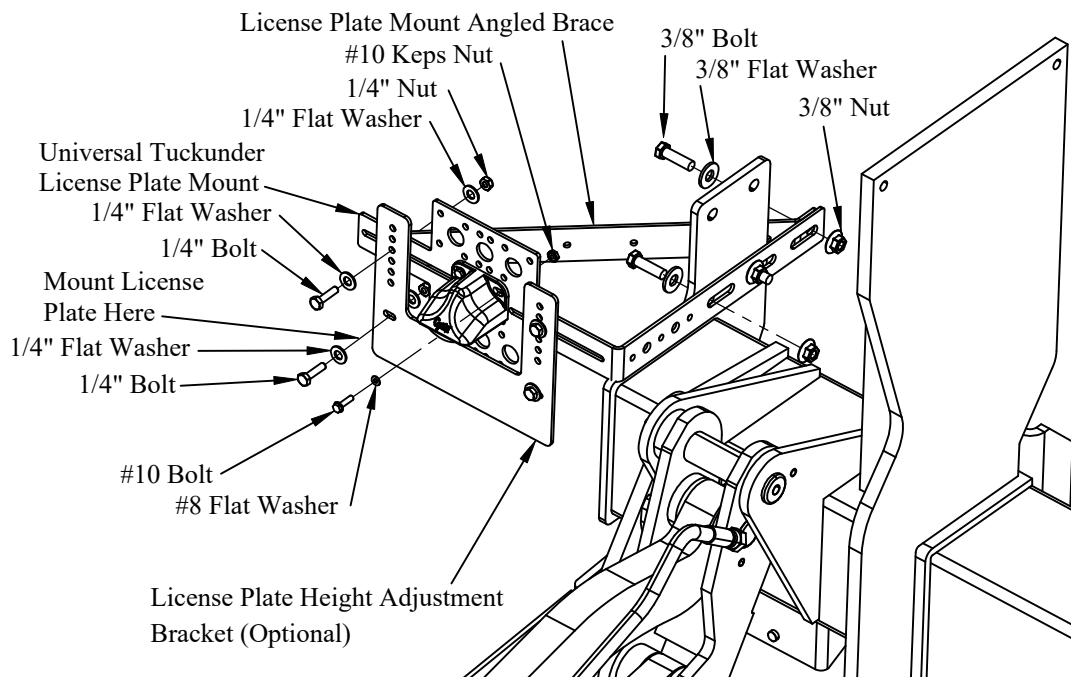

Figure 4: Recommended TKR mounting configuration #1.
1. Install the Universal Tuckunder License Plate Mount using the provided hardware (Figure 4 & 5).
Note: The License Plate Mount Angled Brace can be installed in mounting configuration #1 for extra rigidity (Figure 4).
2. Install the License Plate onto the Universal Tuckunder License Plate Mount using the provided hardware (Figure 4 & 5).
Note: The License Plate Height Adjustment Bracket can be used to adjust license plate mounting heights if needed for better license plate visibility (Figure 4).